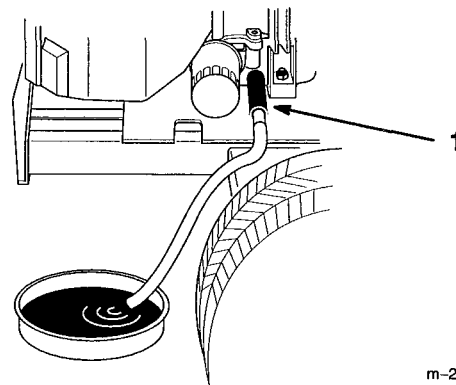

Figure 18
4. Place a pan below the oil drain. Open the drain by turning counterclockwise, 1/8 turn and pulling out (Fig. 18).